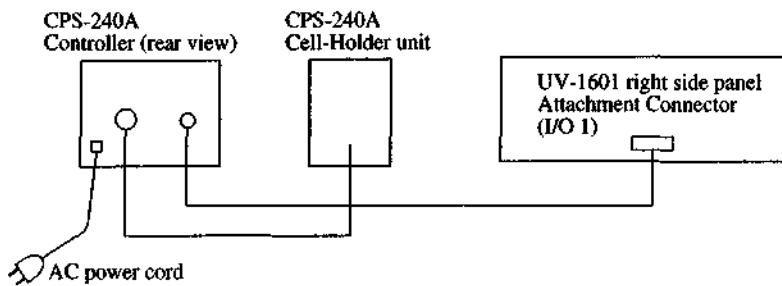

Fig. 5.3.3 Connecting the CPS-240 cable
- (5) Press down on the CPS-240 from the top so that the sample compartment positioning pin on the front-bottom of the CPS-240 inserts into the sample compartment positioning hole on the unit.
- (6) Tighten the knurled screws (2) beneath the front of the sample compartment.
- (7) Connect the CPS-240 with the spectrophotometer according to the figure 5.3.3.